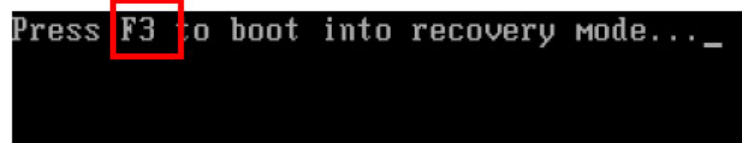

Figure A-10: Press F3 to Boot into Recovery Mode
Step 1: Turn on the system. When the following screen displays (**Figure A-10**), press the <F3> key to access the recovery tool. The message will display for 10 seconds, please press F3 before the system boots into the operating system.